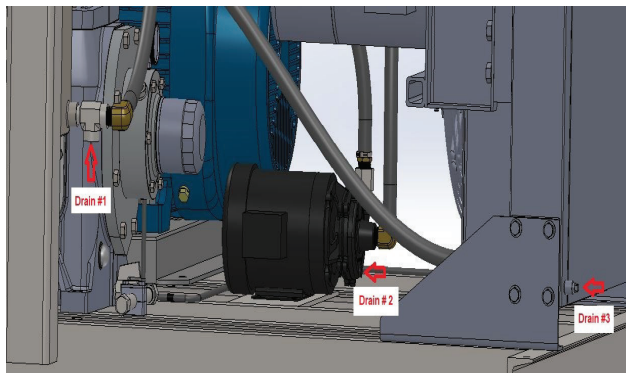

Figure 22: Drain Locations
2. Place collection buckets under each of the drain ports and unscrew drain plugs. (See Figure 22)
1. Make sure all of the drain plugs are installed and snug tight. (See Figure 22)